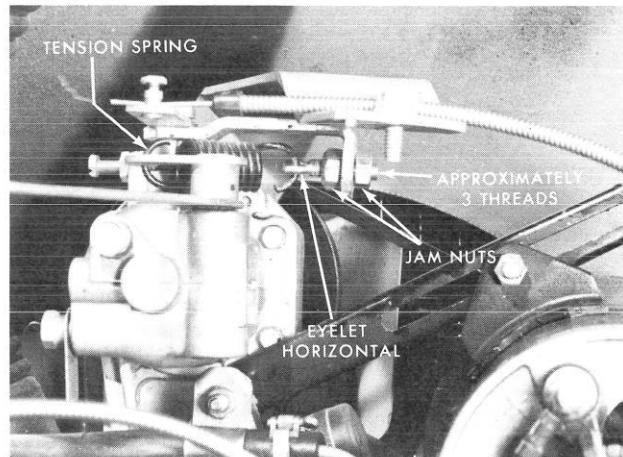

Figure 39
- If the drop in speed between no-load and full load is too great, loosen the lock nuts and add tension to the spring (Figure 39) by lengthening the spring  $1/32"$ . Bring engine back to original speed with throttle lever. Repeat this procedure as required.